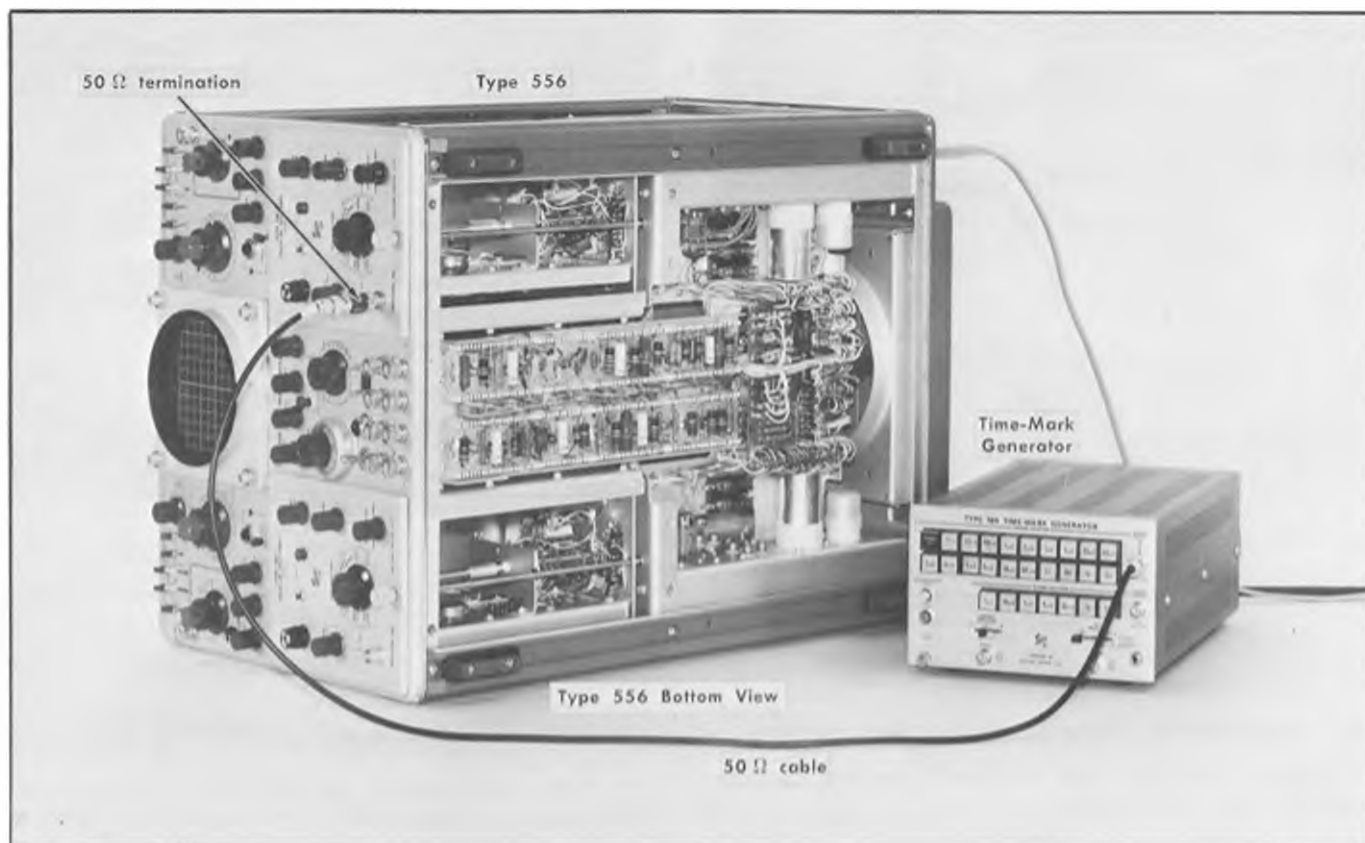

Fig. 6-40. Test setup for adjusting Delay Start and Stop.
- The test setup is shown in Fig. 6-40.